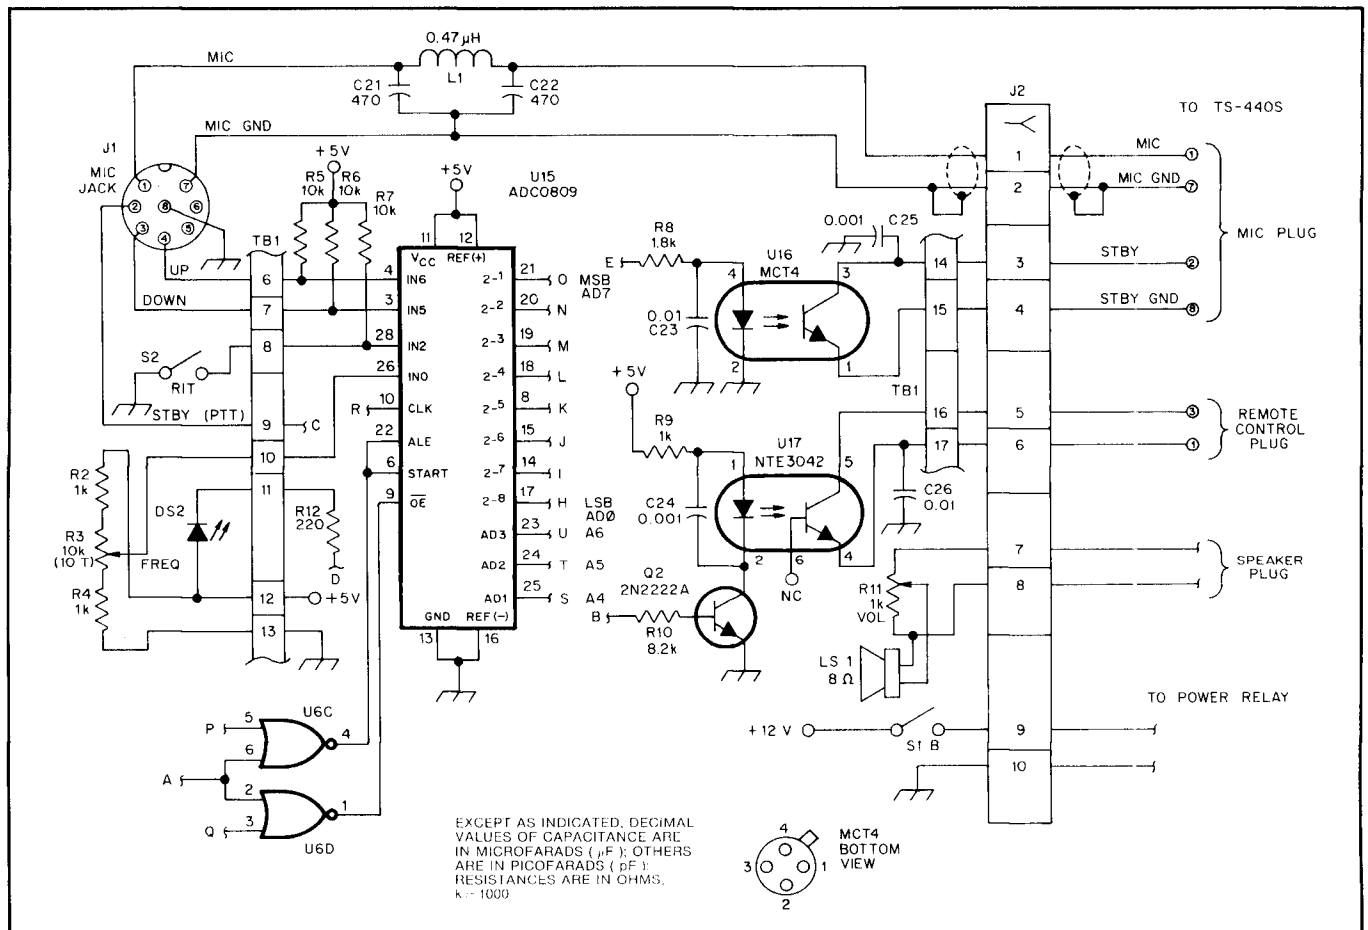

Fig 3—Schematic for the TS-440S RCU (remote control unit). MPC application interconnections are listed alphabetically. See text.
With the addition of the circuitry in Fig 3, the MPC can be used as a remote control unit (RCU) for a Kenwood TS-440S MF/HF transceiver (equipped with Kenwood's IC-10 option) for mobile operations. Borrowing an idea from a commercial VHF/UHF system, the transceiver is locked in the car trunk with the MPC/RCU installed under the dash. Frequency and mode are entered via the keypad, as are frequency storage and recall operations involving the MPC/RCU EEPROM. Transceiver frequency changes can be performed in two ways: (1) The UP/DN switch on the rig's standard mobile mic and (2) with an A/D converter (ADC0809) reading the position of a potentiometer (R3, FREQ). In the A/D method, the MPC converts the position of the potentiometer into serial frequency commands and sends them to the TS-440S at 4800 bit/s. I find that the A/D method allows a faster tuning rate than the rate used with the microphone UP/DN switch. It closely emulates the speed of the TS-440's tuning dial. The A/D method is also a less expensive alternative to using a rotary position encoder.
Also shown in Fig 3 is a method of expanding the I/O of the